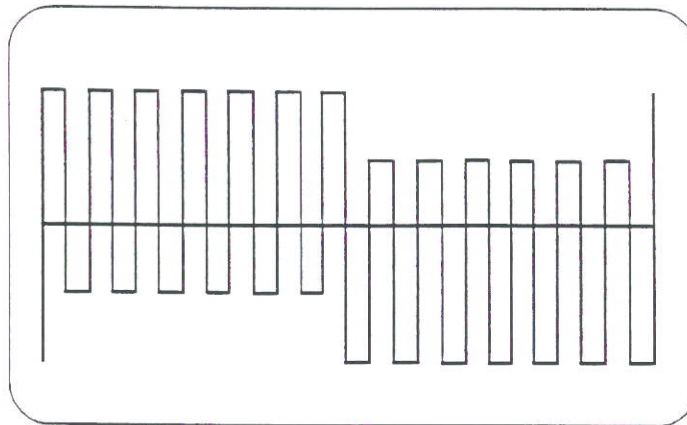

Fig. 2
- 16 • The maximum focus is now shown on the oscilloscope, (fig. 2).